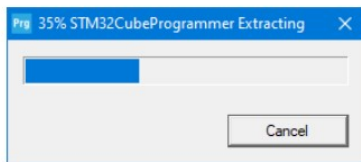

fig. 1 – Preparing to install
3. Double-click the executable SetupSTM32CubeProgrammer_win64.exe, to initiate the installation, and follow the on-screen prompts (from fig. 1 to fig. 13) to install the software in the development environment.